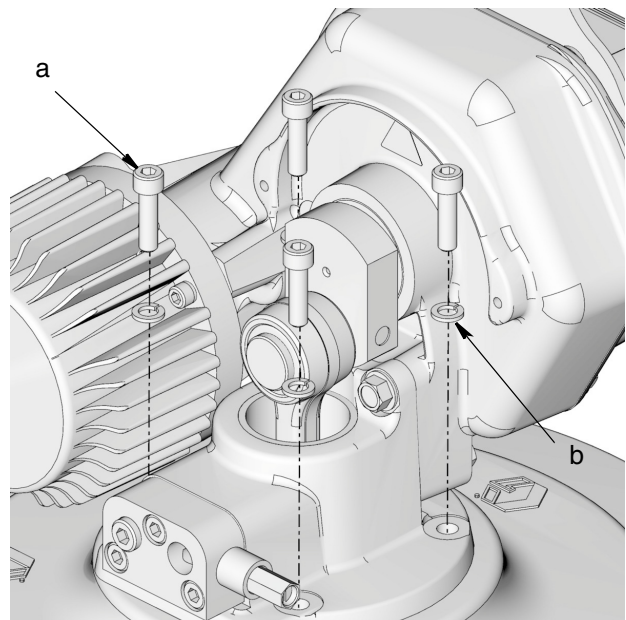

FIG. 18
6. Remove screws (a) and washers (b) holding Dyna-Star Pump to cover and remove pump from cover (FIG. 18). Place pump on a workbench or table top protected with a drop cloth.